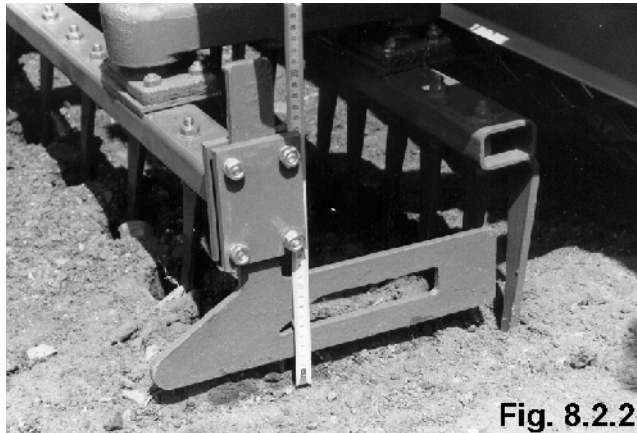

Fig. 8.2.2
- Adjust the harrow until it is about 2 cm above the ground (Fig. 8.2.2),